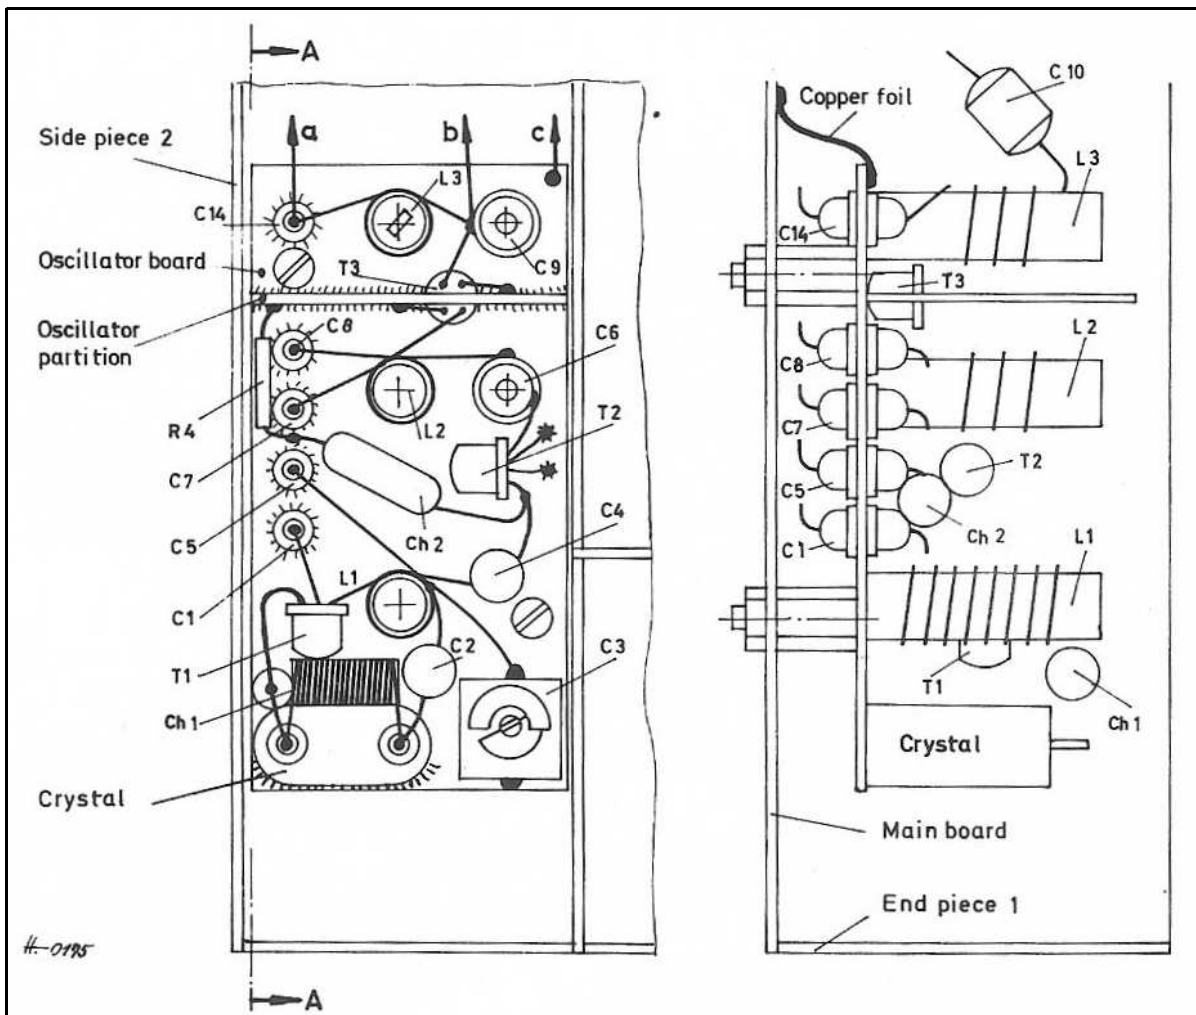

Fig 6: Mechanical assembly of the oscillator portion in chamber IV. Sectional view A-A (see Table 1).
3.2. Oscillator portion (Fig 6)
This separately assembled sub-assembly comprises the crystal oscillator, the tripler and the 253MHz buffer amplifier stage. It is built up on a small printed circuit board, which is copper coated on both surfaces (see Fig 6). A partition made from the same material, into which transistor T3 is mounted, separates the input and output of the 253MHz amplifier stage. Of course, brass plate could also be used for this sub assembly, and with enough experience, be modified into
The transistor T3 of the 253MHz amplifier stage is mounted with its connecting leads facing upwards in a cut-out in the oscillator partition (see Fig 6). The emitter and screening connections are soldered directly above the cut-out to ground. This ensures that the transistor is firmly held, that the base connection is on one side for the joining to the lowest be soldered on the other side to the trimmer C9.